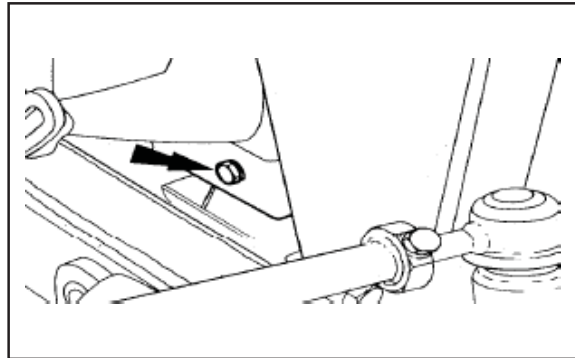

Fig. 96
2. Remove the drain plugs at the bottom of the radiator and from the cylinder block (Fig. 96).